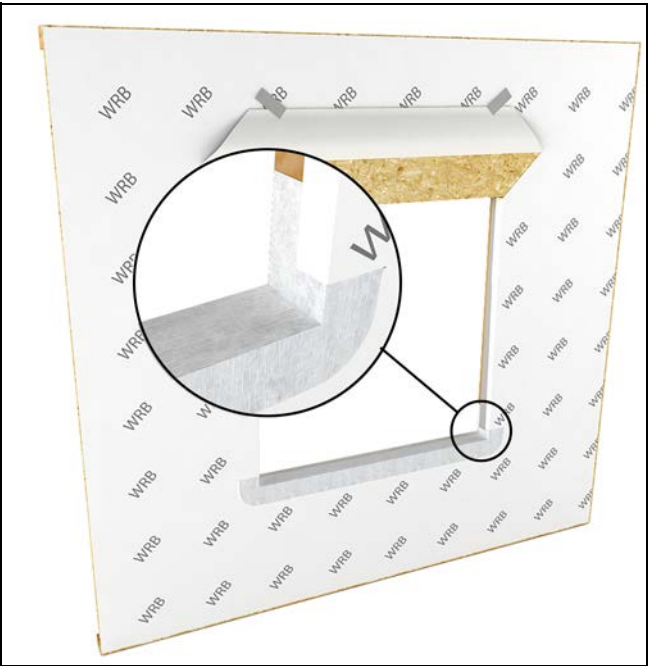

Figure 15
6. Wrap side flaps to the interior and staple in place about 1 1/2" (38) from the interior edge of the opening. Cut the excess off near the staple so that a 1" -1 1/2" (25-38) strip of bare wood is exposed. Tape this edge with seam seal tape. See Figure 15.